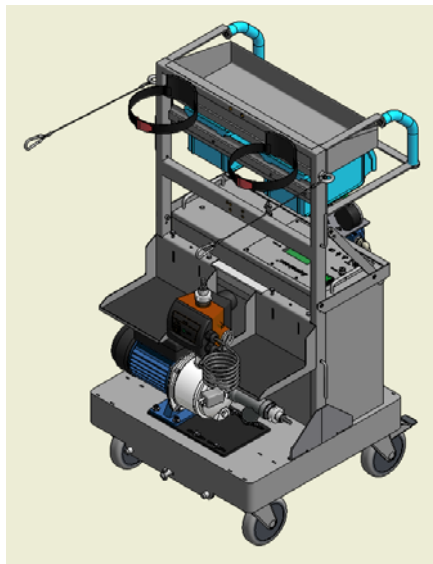

Figure 7 – Relocate carbon tank trays
6. Locate and install the four (2x2) M6x40 screws (LMW P/N 3051884) to secure carbon tank trays (LMW P/N 3049417) on the cross brace (See figure 7).